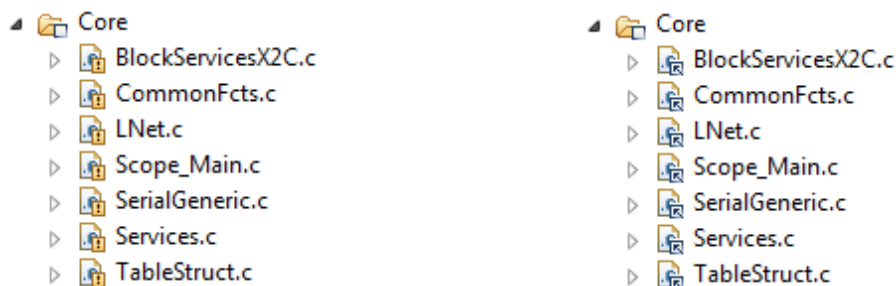

Figure 2: *Code Composer Studio* invalid (left) and valid (right) X2C root directory
3. In the *Code Composer Studio* file structure of the *Blinky* demo project there are two virtual folders *Blocks* and *Core*, which should be linked directly to the X2C directory. To ensure this go to **Project** → **Properties** drop down **Resource** and click **Linked Resources**. Double click on folder **X2C_ROOT** and set the correct link to your X2C installation directory (<X2C_ROOT>). After hitting **OK** two times there should not be any warning signs (like shown in Figure 2) at the icons for the linked files in the *Blocks* and *Core* folders.